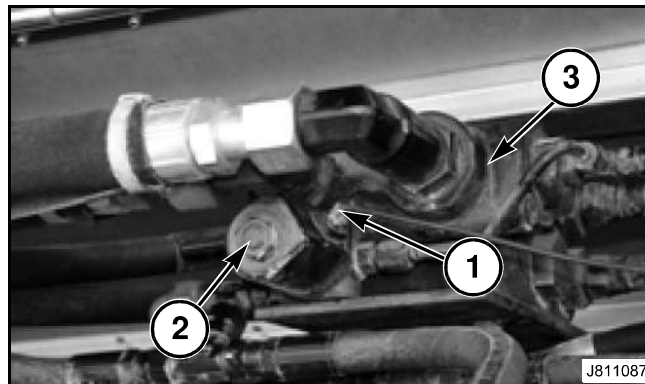

FIG. 156
FIG. 156: Remove the nut and disconnect the electrical circuit (1) from the solenoid (2) on the Equa-Trac II valve (3). Check and remove any wire ties that may be locating the wire on any of the axle components to be removed. Lay the wire out of the work area.